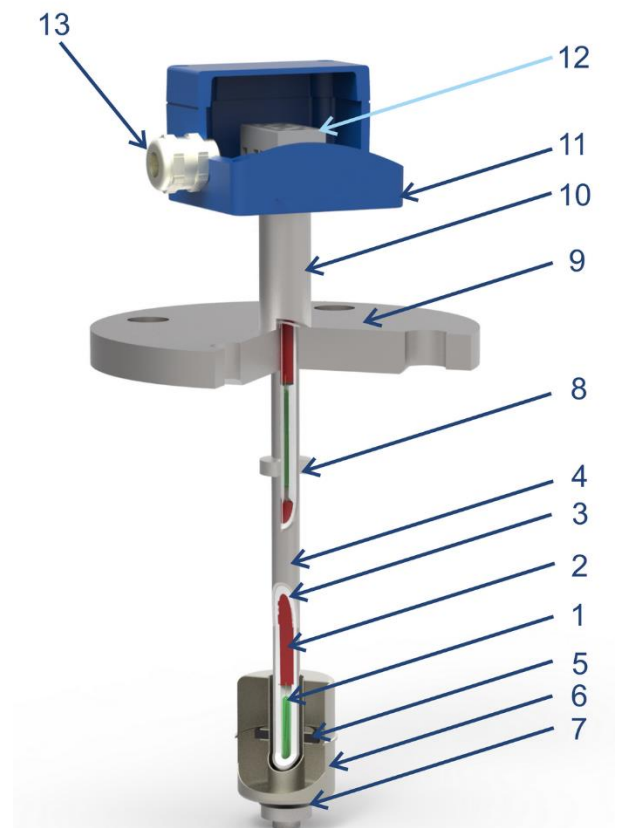

Figure 1.1 Structure of the level switch LLS-F-T
Figure 1.1 shows a level switch for installation inside a vessel. It consists of one or more sealed contacts (reed switches) (1) connected to connecting cable (2). To fix the alarm zone, the reed switch and the cable in the guide tube (4) are filled with compound (3).